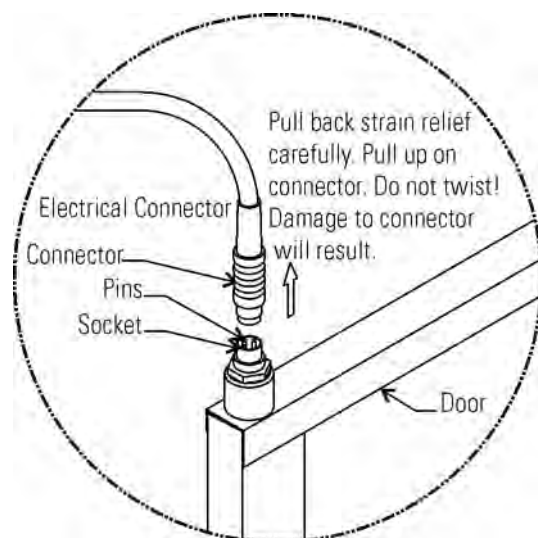

Figure 5-12. Connector
6. Refer to Figure 5-12. The heater wiring connector is of yellow rubber which should be visible when the strain relief is moved upward as shown. See connector manufacturer's instructions in Appendix A of this manual.
10. The shoulder of the bushing must be on top as shown in Illustration B. Install the black plastic bushing into the hinge just removed and which will be the top hinge when the door is reversed. See Figure 5-12.